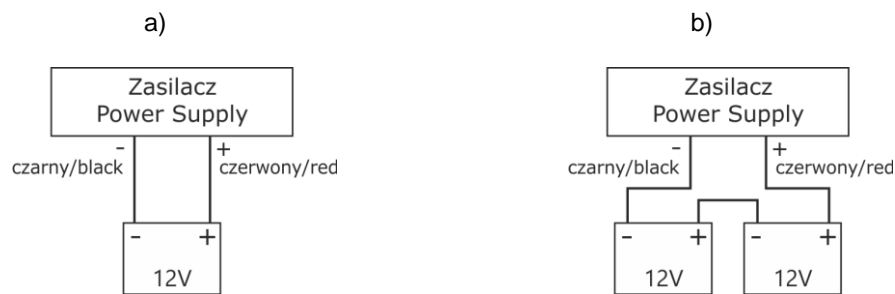

Fig. 5. Connecting batteries depending on voltage version of power supply:
5. Install battery/batteries in a designated area of enclosure. Connect batteries with PSU paying special attention to correct polarity and type of connections (Fig. 5):